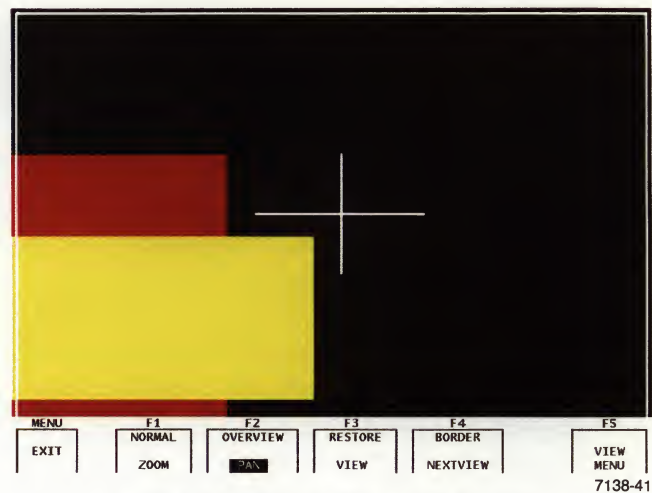

Figure 6-5. Display With Updated View.
5. If you move the cross around and press F3 again, you will see a different part of the image, but the framing box and image size do not change as in Figure 6-5.